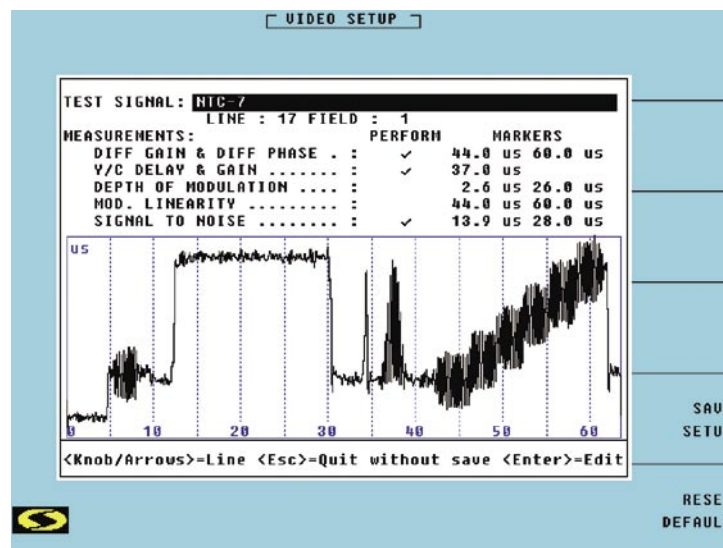

Figure 4
5. The measurement parameters must now be set up. Press the soft key and screen like Figure 4 will appear. Press the enter key until the appropriate test signal is displayed. In the example in Figure 4, the NTC 7 signal is used. The FCC signal is called the Composite TX in the analyzer.
7. Use the knob to enter get to the perform field on the Diff Gain & Diff Phase measurement. Make sure that entry is checked as in Figure 4.
8. Use the knob to toggle through the remainder of the parameters screen and choose what measurements are to be performed. In example of Figure 4, Diff Gain, Diff Phase, Y/C Delay and Gain and Signal to Noise will all be performed.